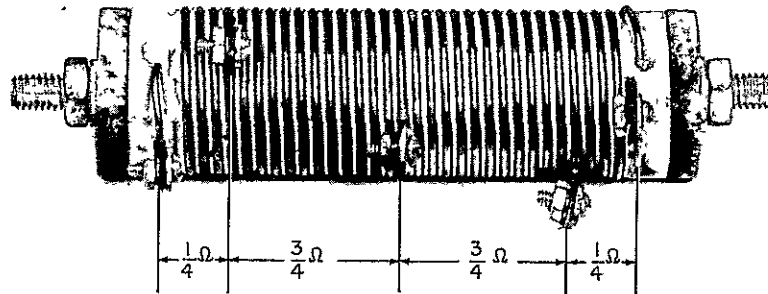

Fig. 4 2 Ohm Resistor
**RESULT.** For specific breaker application, reference should be made to Fig. 3 and resistor taps Fig. 4 & 5. When the resistance value has been selected and the proper connection made no additional